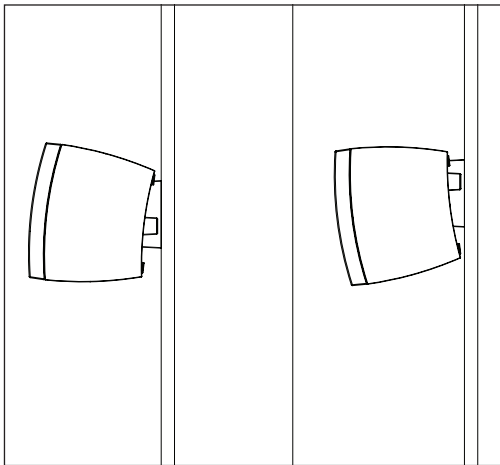

Fig. 2
For the most accurate timbral balance, place your front speakers so that their high-frequency drivers are approximately ear level (see positioning ① and ②). Measure the distance from the listening area to your speakers. For optimal imaging, place the speakers approximately 3/4 of that distance from each other. MLT-2 speakers can be placed on a shelf, or wall mounted (Fig. 2 on page 7)
NOTE: When mounting the MLT-2 center channel, if you run speaker cable down the face of the wall, apply self-adhesive bumper pads (included) to rear corners of enclosure to accommodate the cable (*see Figure 2*).